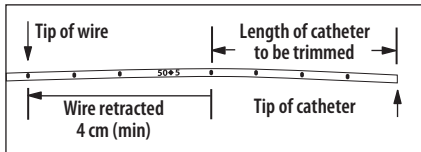

Figure 2
8. Withdraw stiffening stylet through septum to retract wire a minimum of 4 cm behind catheter cut location (refer to Figure 2).